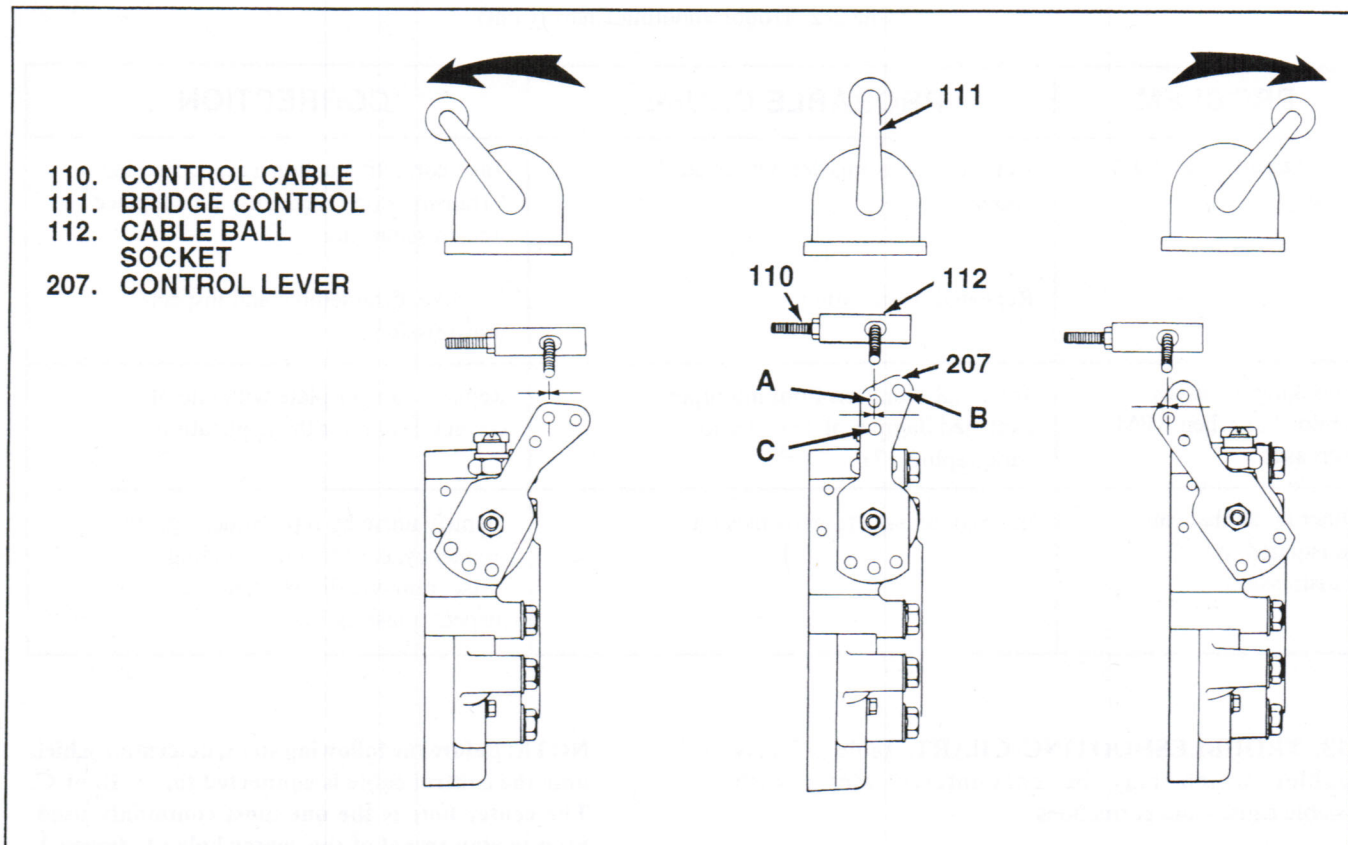

Figure 2-3. Control Cable Adjustment
2-15. With the engine shut down, make cable adjustment as follows (see figure 2-3):
**NOTE: Before the following steps, determine which hole the control cable is connected to, A, B, or C. The center hole is the one most commonly used. Stop to stop travel of the center hole (A, figure 2-3) is approximately 2-3/4 in. (70MM). Stop to stop travel for the outer hole (B) is 3 in. (76MM). Stop to stop travel for the inner hole (C:) is approximately 2-3/32in.(53MM).**
1. Disconnect control cable from transmission shift lever (207).
2. Place bridge control lever (111) in central, neutral position.
3. Move transmission shift lever (207) to its central neutral position. Make sure lever detent ball is engaged.
4. Adjust cable ball socket (112) to align with proper hole in transmission shift lever (207). Once established, this setting should not need to be altered.